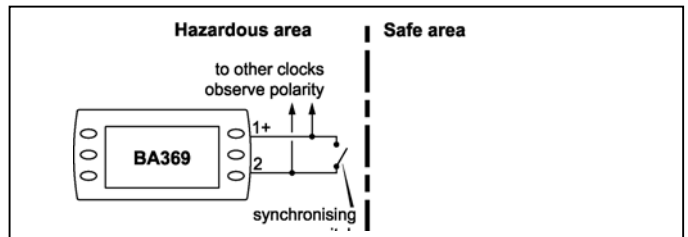

Fig 1 Synchronising display from hazardous area
Fig 1 shows how up to ten BA369 clocks may be synchronised by a mechanically operated hazardous area switch. Any switch may be used providing it has IP20 protection and will withstand a 500V rms insulation test for one minute.
- If the synchronising facility is being used connect the panel wiring to the rear terminal block as shown in Figs 1, 2 or 3. To simplify installation, the terminal block is removable so that panel wiring can be completed before the instrument is installed.